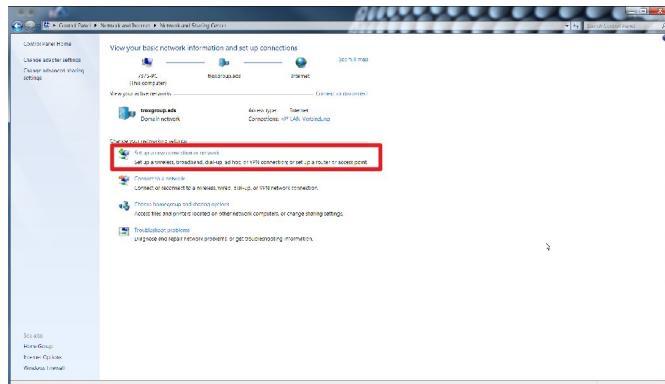

Fig. 42: Setting up a new connection or network
- ▶ Select 'Set up a new connection or network' (Fig. 42).